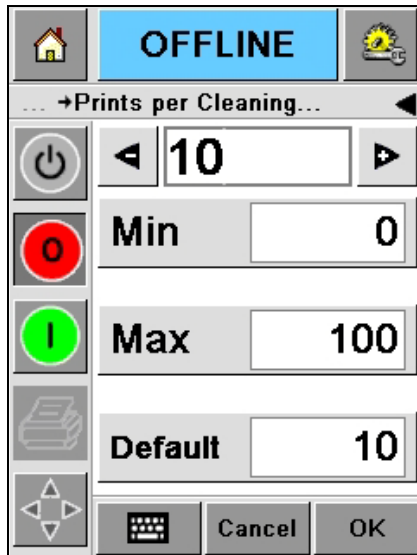

Figure 5-18: Prints per Cleaning Cycle
- 1 Navigate to *Tools > Setup > Printhead* and scroll below to reach the *Prints per Cleaning Cycle*. Enter the required value (Figure 5-18 on page 5-14).